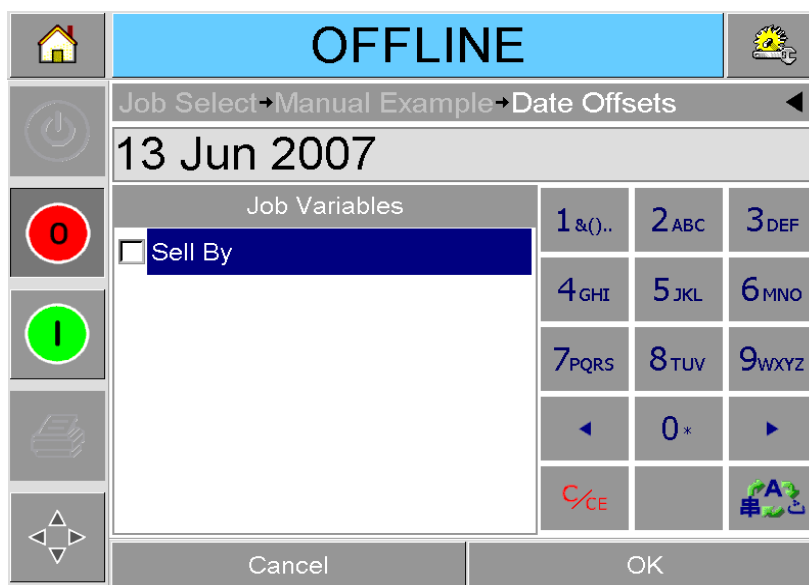

Figure 4-9: Default Data Window
- 1 Touch the required job variable to select it from the list of job variables. The current information is shown in the data window (Figure 4-9).